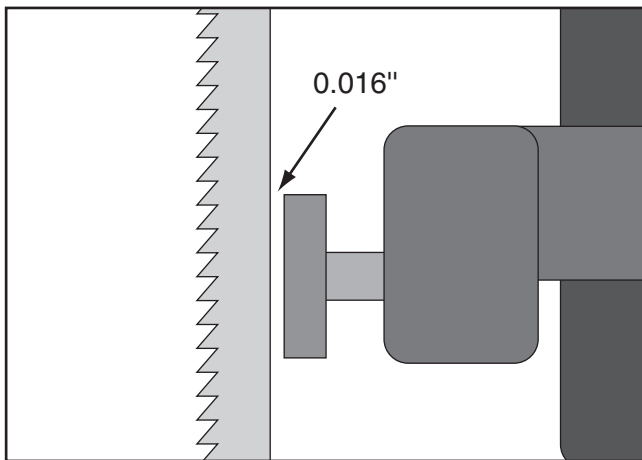

Figure 22. Blade should be aligned approximately 0.016" away from the bearing edge.
- Position the support bearing approximately 0.016" away from the back of the blade as illustrated in **Figure 22**.